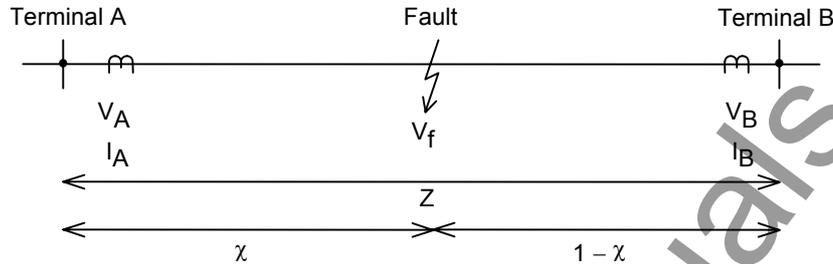

Figure 2.8.4.1 Two-terminal Model
In the case of a two-terminal line as shown in Figure 2.8.4.1, the relationship between the voltages at the local and remote terminals and the voltage at the fault point are expressed by Equations (1) and (2).